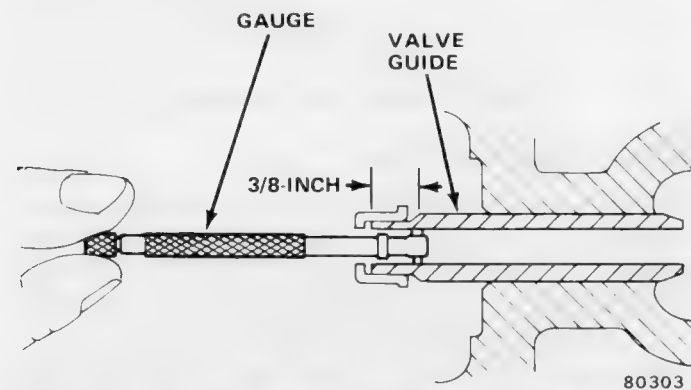

Fig. 1B-74 Measuring Valve Guide with Telescoping Gauge
(1) Remove valve from head and clean valve guide with solvent and bristle brush.
(2) Insert telescoping gauge into valve guide approximately 3/8-inch from valve spring side of head (fig. 1B-74) with contacts crosswise to cylinder head. Measure telescoping gauge with micrometer.
(3) Repeat measurement with contacts lengthwise to cylinder head.
(4) Compare crosswise to lengthwise readings to determine out-of-roundness. If measurements differ by more than 0.0025 inch, ream guide to accommodate oversize valve.
(5) Compare valve guide diameter with diameter listed in Specifications. If measurements differ by more than 0.003 inch, ream guide to accommodate oversize valve.
(1) Use dial indicator to measure lateral movement of valve stem with valve installed in its guide and just off valve seat (fig. 1B-75).
(2) Correct clearance is 0.001 to 0.003 inch. If indicated movement exceeds this amount, ream guide to accommodate oversize valve.